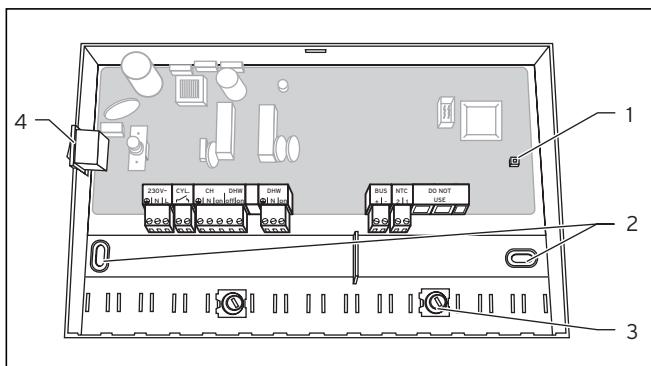

Fig. 4.2 Assembling the Control Centers
**The VR 65 has a mains switch (see fig. 4.2) to isolate the internal electronics as well as all connected zone valves for the purposes of tests and maintenance. When the housing cover has been removed, a green LED indicates if the VR 65 is still connected to the mains voltage.**
The VR 65 has a mains switch (see fig. 4.2) to isolate the internal electronics as well as all connected zone valves for the purposes of tests and maintenance. When the housing cover has been removed, a green LED indicates if the VR 65 is still connected to the mains voltage.
The Control Center VR 65 has a green Operating LED, which can be monitored when the housing cover is removed (see fig. 4.2).